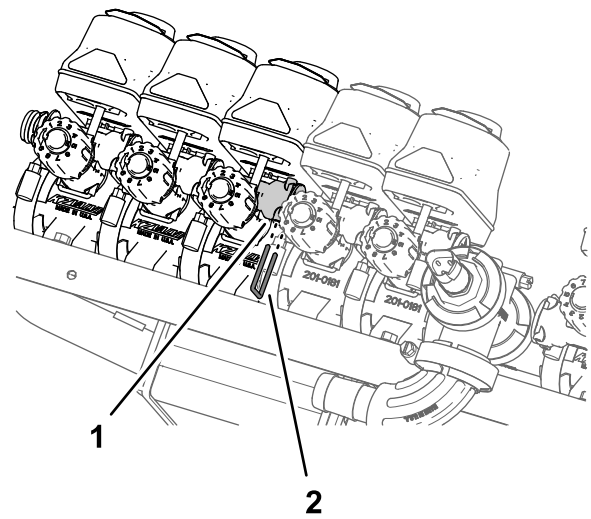

**Figure 105**
1. Assemble the 3 section valves (Figure 105) that you removed in step 8 of Removing the Section Valves from the Manifold Mount (page 34) onto the flange of valve 7 of the sprayer valve assemble with the flange clamp and gasket that you removed in step 4 of Removing the Section Valves from the Manifold Mount (page 34).